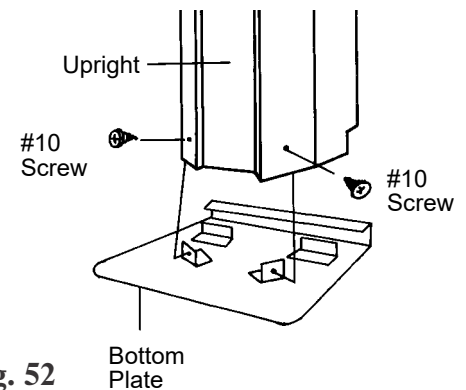

Fig. 52
- Models with metal or resin bottom plates will require one, two or three #10 x 1/2" screws for each upright depending on which model you have (Fig.52).